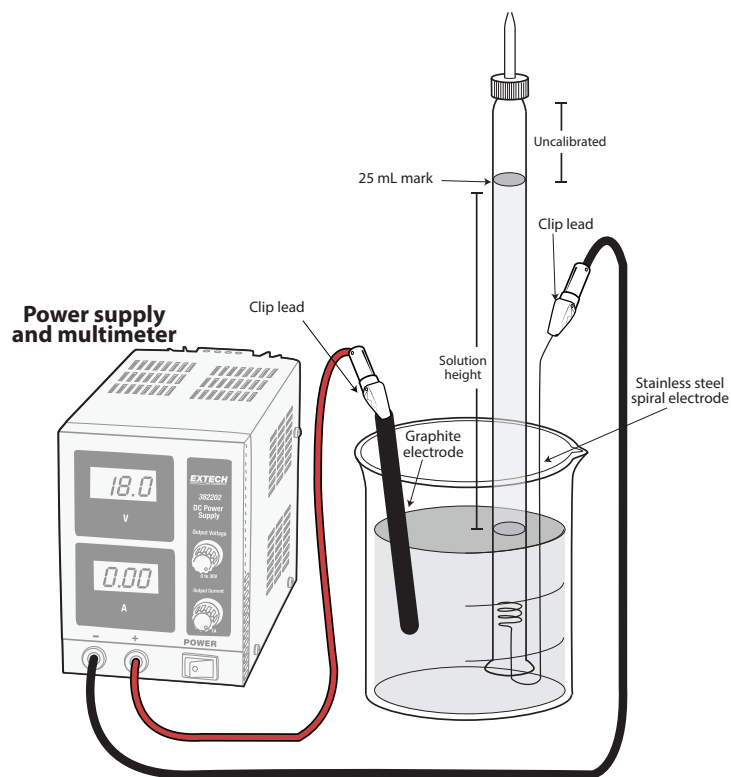

Figure 2. Electrolysis Apparatus
2. You will set up the electrolysis assembly to electrolyze water and collect one of the evolved gases in your buret. Figure 2 shows selected parts of the assembled apparatus as it should appear at the instant the electrolysis begins.
- c. Connect the (–) terminal from the multimeter to the spiral electrode. Connect the (+) terminal from the multimeter to the graphite electrode. Be sure you are collecting the hydrogen gas at the spiral electrode! Do NOT put the graphite electrode into the solution in the beaker just yet. Refer to Figure 2.
- b. Put the attached graphite electrode into the beaker as shown in Figure 2. Now adjust the current knob to get a reading of about 0.2 Amps.